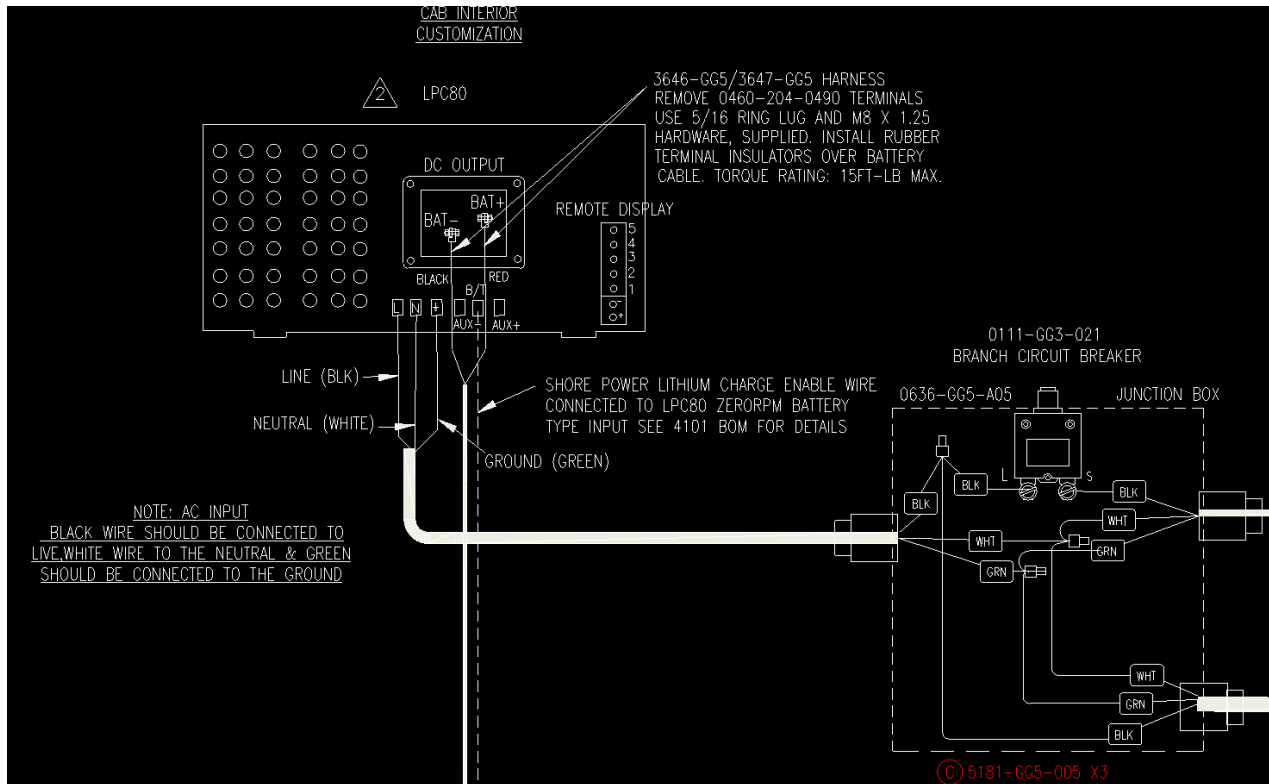

Figure 5.1
- 10) Referring to the notes/photo taken earlier and **Figure 5.1** below, reconnect the wires to the Kussmaul charger.